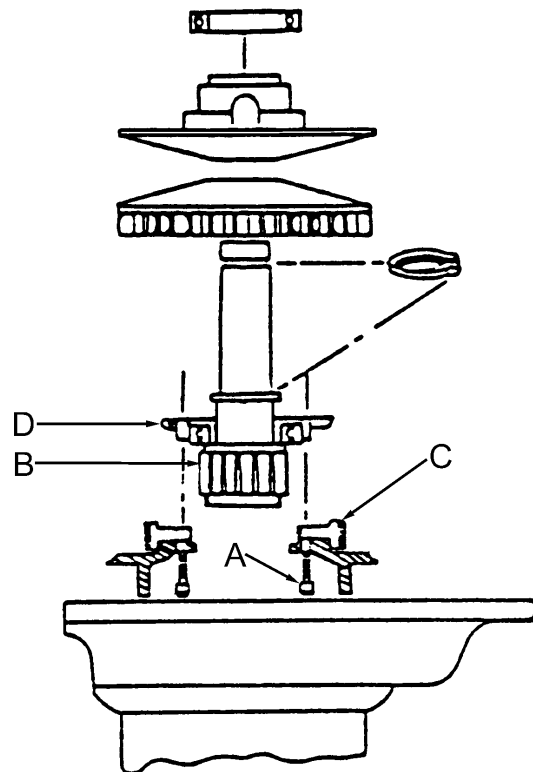

Figure 18
3. Remove the two screws (A, Fig. 18).
4. Remove the clutch hub assembly (B & D, Fig. 18).
5. Replace the brake shoes (C, Fig. 18).